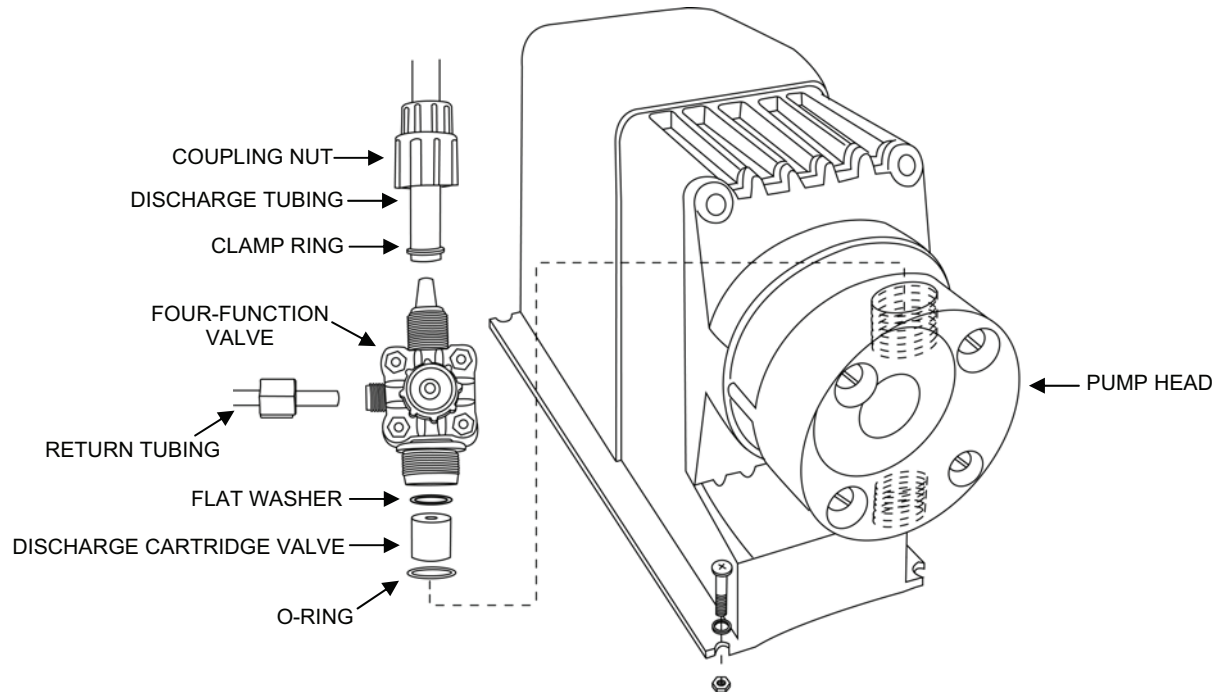

Figure 8. Chemical Injection Pump Four-Function Valve Replacement.
1. Remove the chemical injection pump four-function valve as follows (see Figure 8):
2. Install the new four-function valve as follows (see Figure 8):